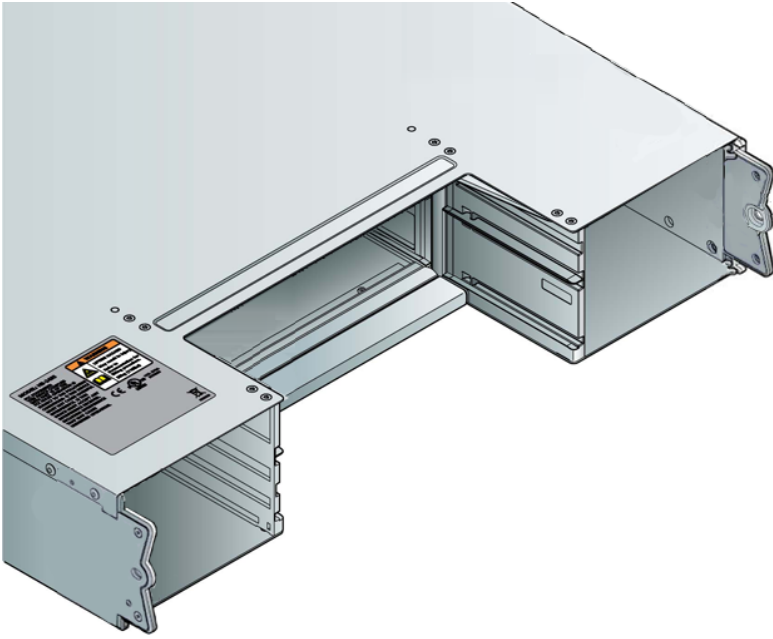

Figure 6-4 - Installing a PCM (2)
3. Cam the module home by manually closing the PCM handle. A click should be heard as the handle latch engages (see Figure 6-4).